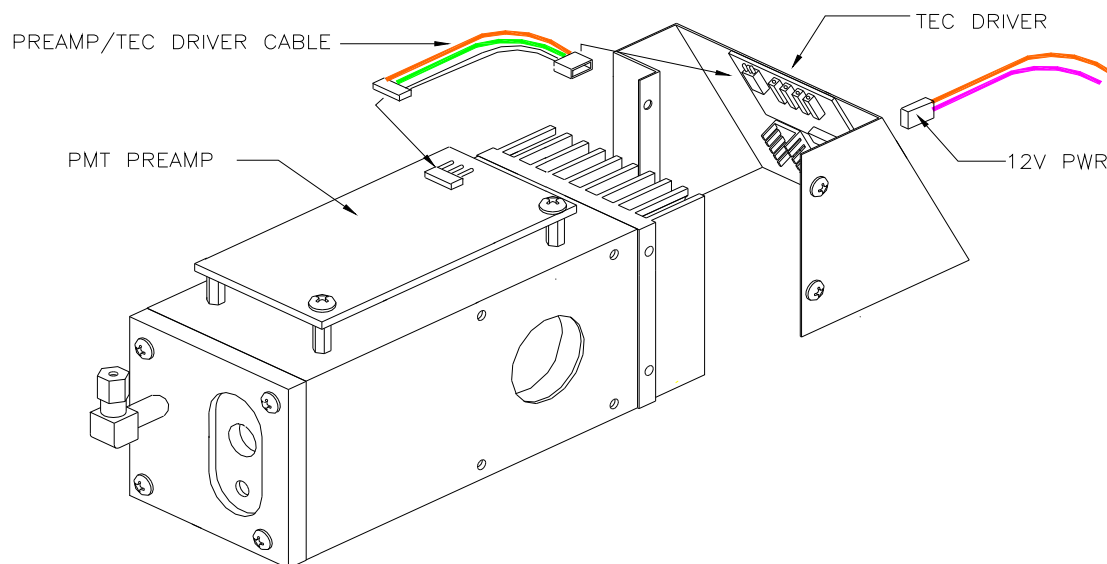

FIGURE 2
1. Take the cover off. Check if the LED is lit on the TEC control card. If the LED is not lit, check the purple and orange connector on the back of the fan shroud for +12Vdc. Refer to FIGURE 1 for location. If the +12Vdc is good at the connector, go to step 2. If this test fails, measure for +12V on the relay board. Refer to FIGURE 2. Take your meter and measure across the black test point and the orange test point. This should be +12V. Then measure across the purple and the orange test points. This should also be +12V. If not, the 12V power supply will need to be replaced. If the voltage is correct then the problem lies in the cable going to the TEC driver board.